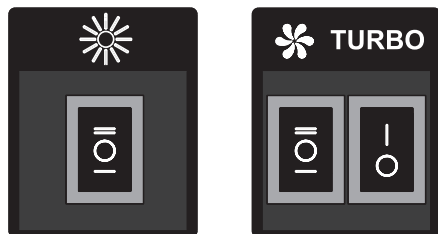

Fig. 5
7.3. On the sides of the body there is a key switch for operating modes of the engine and switching the lighting lamps (Fig. 5).